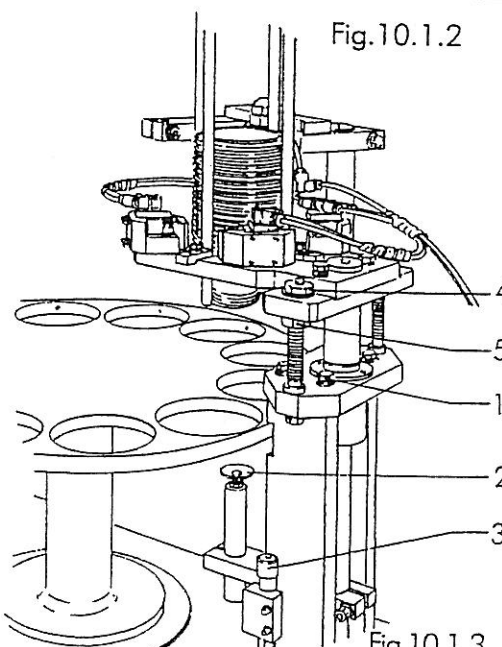

Fig.10.1.3
- Insert the screws with relative washer 1 fig. 10.1.3 and tighten firmly;
- Mount the suction device 2 fig. 10.1.3 and lock with screw 3 fig. 10.1.3.
The station has been adjusted by the manufacturer. For any fine adjustment which may be required, intervene on the suction support 2 fig. 10.1.3.
- Loosen screw 3 fig. 10.1.3.